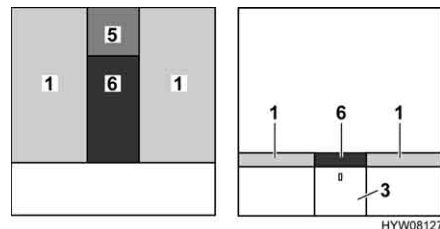

Fig. 88 After conversion
- Place the additional cushion (Fig. 88,5) on the bedside locker.
- Place the additional cushion (Fig. 88,6) between the mattresses (Fig. 88,1).